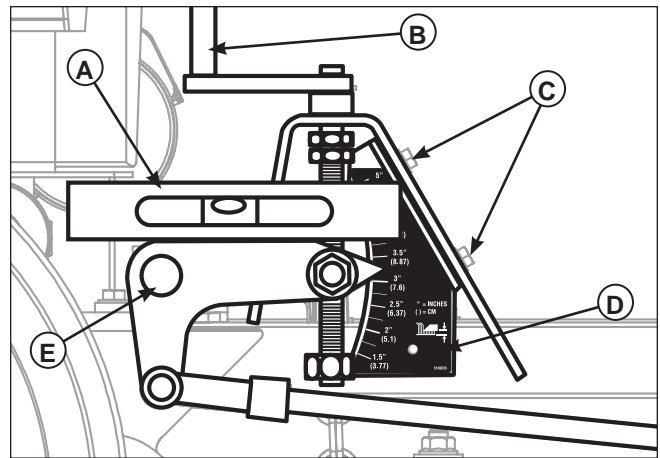
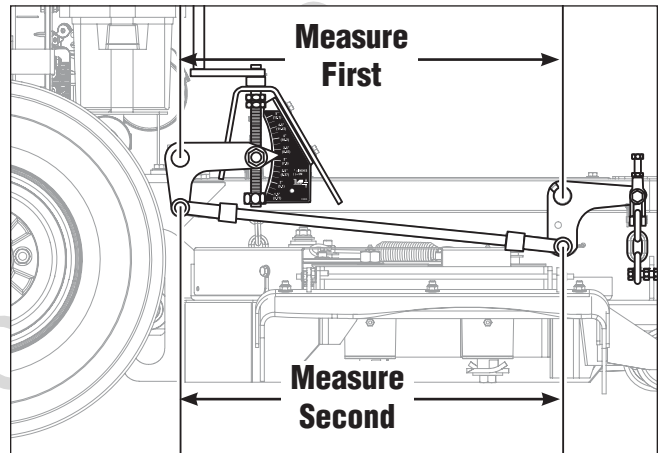

Figure 25. Deck Height Position
Figure 26. Measure and Adjust Lift Rod Timing
2. Place a level (A, Figure 25) on top of the cutting height indicator (E) and adjust the cutting height indicator up or down with the deck height adjustment handle (B) until the cutting height indicator is level.
3. Loosen, but do not remove the height indication plate hardware (C) that secures the height indicator plate (D). Maneuver the height indicator plate up or down until the cutting height indicator points to the 3.25" (8,26 cm) mark. Tighten the height indication plate hardware.
4. Refer to Figure 26. To check the deck lift rod timing, measure and record the distance between the lift pivots and the rod pivots. Repeat for the other side of unit.